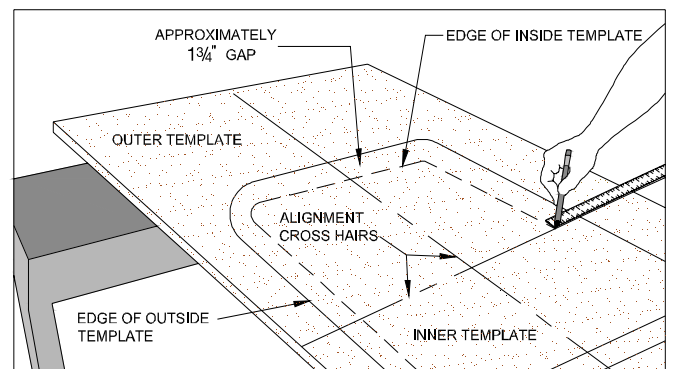

Figure 24C
- Using the dimensions indicated on page 9, Figure 9C for the appropriate gap dimensions, measure and pencil in the line for the inner template. (FIG. 24C)